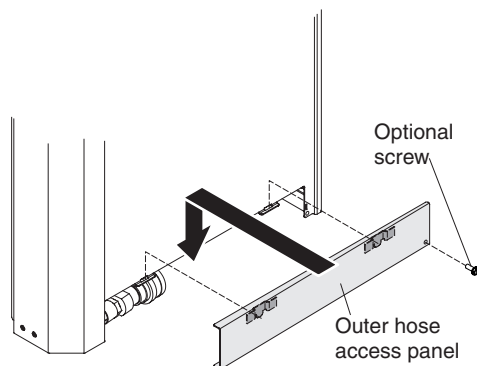

Figure 61. Installing the outer hose access panel
- c. (Optional) Secure the outer hose access panel to the heat exchanger with an M4 screw (see Figure 61).